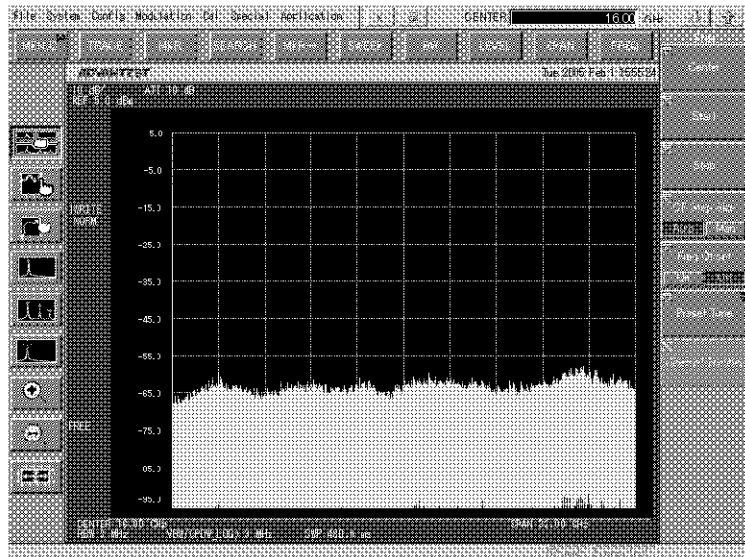

Figure 3-8 Initial Setting Screen
5. The initial screen shown in Figure 3-8 is displayed unless this instrument is tested faulty.
The initial screen may give a different look from Figure 3-8, depending on the settings in effect the last time this instrument was powered off.